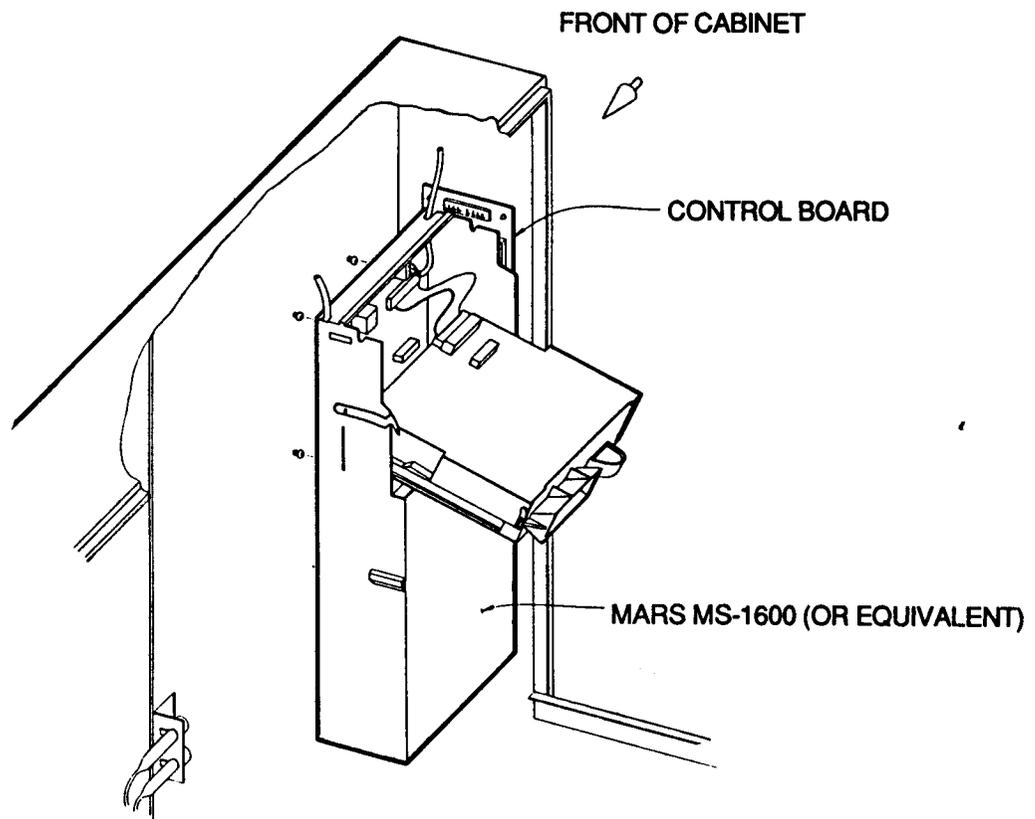

FIGURE 2
1. Install coin changer into the machine in the area located behind the removable door (changer access door) on the right inner side of the compartment. (See figure 2). There are three (3) screws with approximately 5mm of thread showing. The changer is mounted on these screws. Open the acceptor and tighten the two (2) top screws. Plug the large electronic plug on the changer into the connector provided and the small nine (9) pin plug into the receptacle on the control board wiring harness.